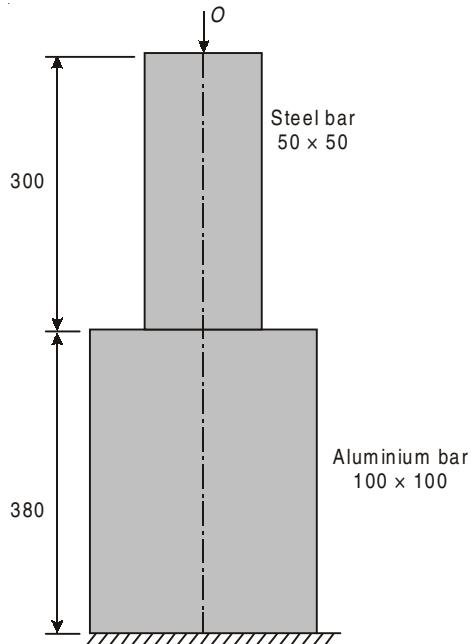

Fig. 1.26
- 1.44.** A member is formed by connecting steel bar to an aluminium bar as shown in Fig. 1.26. Assuming thai bars are prevented buckling sidewise. calculate the magnitude of the force P , that will cause the total length of the member to decrease 0.25 mm . $E_s = 210 \text{ kN/mm}^2$, $E_a = 70 \text{ kN/mm}^2$. What is the total work done by P ? [Ans. $P = 224 \text{ kN}$; Work = 56 J]